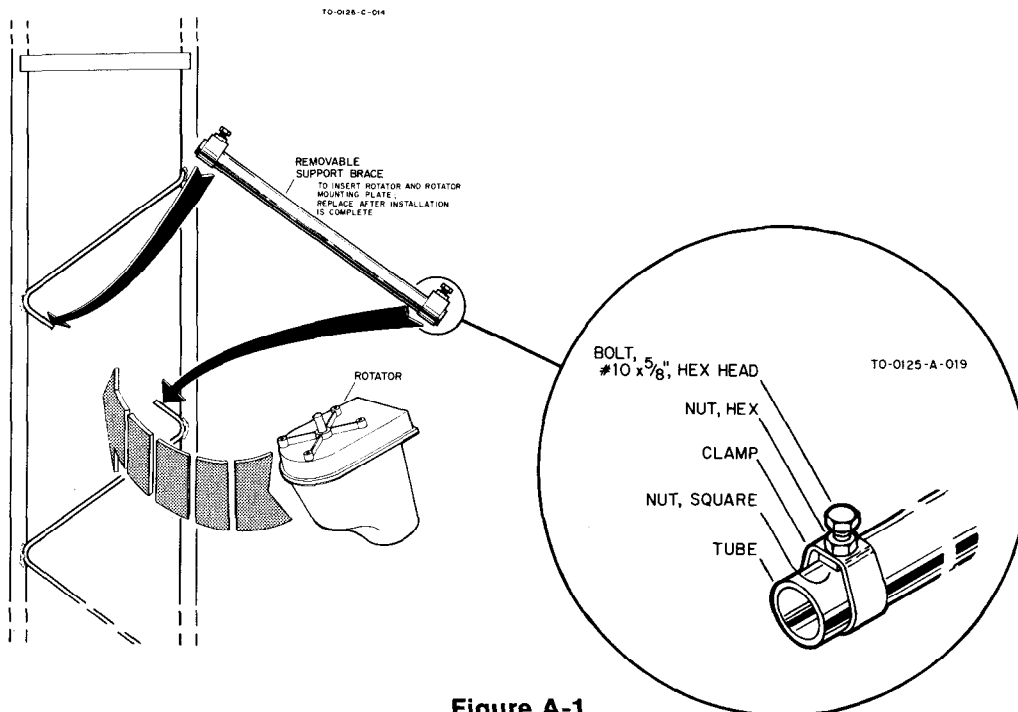

Figure A-1
- Refer to Figure A-1. Loosen the two #10 x $\frac{3}{4}$ " bolts on each end of the removable brace. Loosen the two #10 locknuts then loosen the two #10 x $\frac{3}{4}$ " bolts.